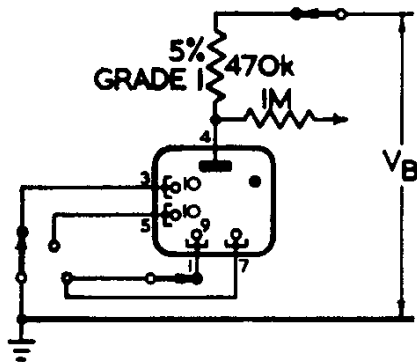

Fig. 3
4. The $K_{1.9}$ 1st guide and 2nd guide electrodes will be successively earthed through a suitable make before break type switch to cause 30 gaps to conduct in turn. The running voltage across each gap shall be within the specified limits. For this test the K_0 and $K_{1.9}$ electrode will be commoned. The test circuit to Fig. 3 is applicable. The measurement of the running volts is to be made between 0.1 and 2.0 seconds after the contacts of the make before break type switch have broken.